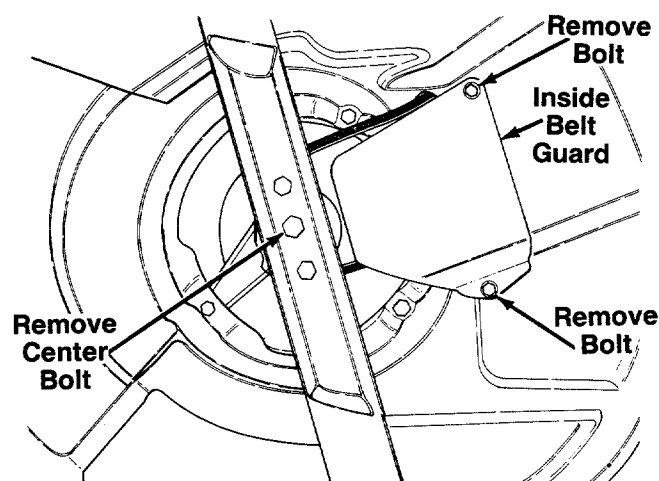

FIGURE 27.
5. Remove the center bolt which secures the blade to the crankshaft. See figure 27. Roll the belt off the pulley. Remove the blade (and blade adapter with pulley).
6. Remove the inside belt guard by removing two self-tapping screws. A $3/8"$ wrench is required. See figure 27.